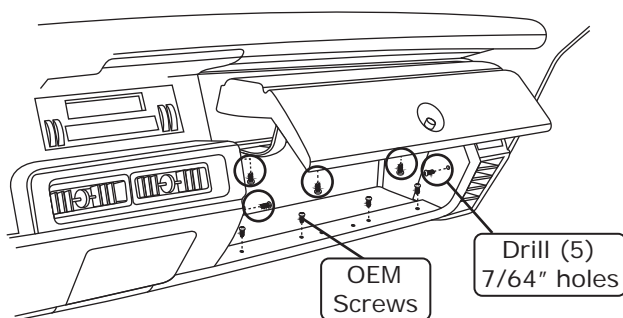

Figure 2a
6. Mark and drill (3) 7/64" holes through the glove box into the top of the glove compartment and (1) 7/64" hole through the glove box into each side of the glove compartment, for a total of (5) holes (See Figure 2a, below).
7. For 1969 models, secure new glove box in glove box compartment using OEM screws (See Figure 2a, below). For 1970 models, reinstall OEM glove box using OEM screws.